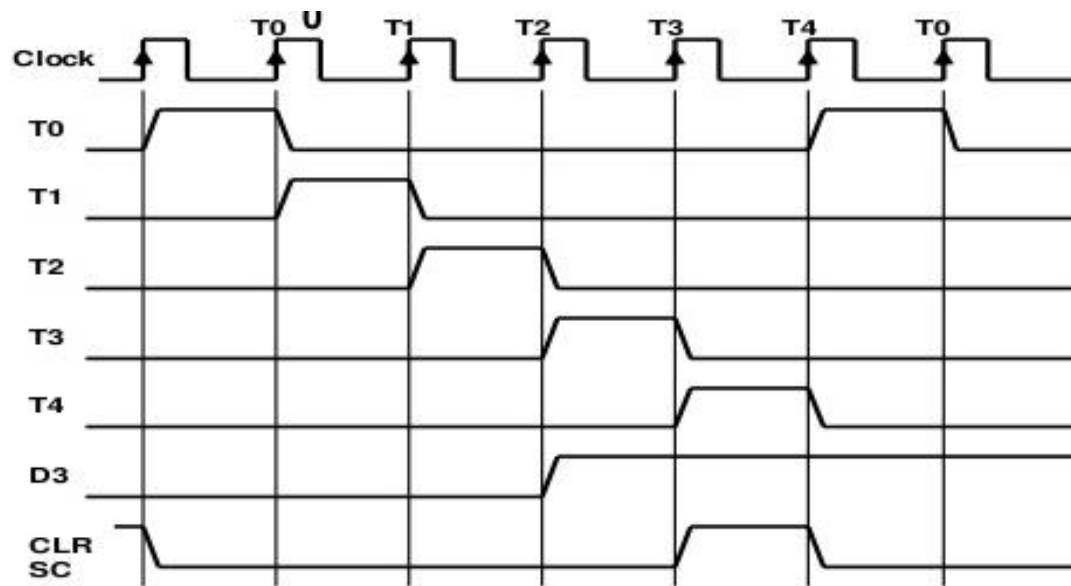

Figure 1-GG: Example of control timing signals
- The last three waveforms in Fig 1-GG show how SC is cleared when $D_3T_4 = 1$. Output D_3 from the operation decoder becomes active at the end of timing signal T_2 .